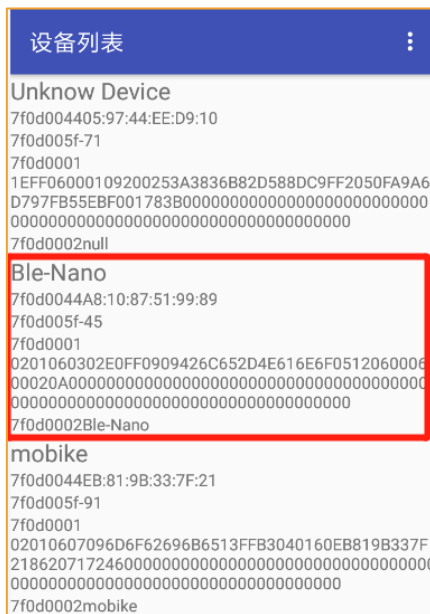

图 1.13
- 3) Install **"BLE-Nano\TestApp\BLETestTools.apk"** on the phone(IOS install LightBlue On apple store) and open the test APP. The interface is shown in figure 1.13. Find the corresponding bluetooth name (Ble-Nano) and click to connect. After connection, as shown in figure 1.14, four options will appear to test different functions, respectively. Because here we only test whether bluetooth can send and receive data normally, so we select SK Service and select SK_KEYPRESSED as shown in figure 1.14 and 1.15